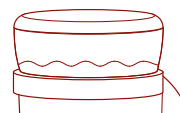

Figure 1
- Make sure unit is switched OFF and unplugged. Place on a clean dry surface. Twist off lid and Ice Reservoir. This will expose the Shaving Paddle and Ice Hopper. *Figure 1 & 2*